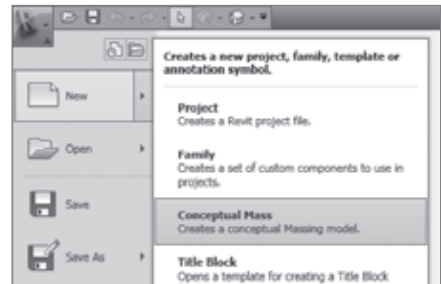

Figure 14.3
We'll look into how to use both methods. If you're in a project file, you can access the massing features in the Conceptual Mass panel on the Massing & Site tab (Figure 14.2). You'll use this tab to create in-place masses, control visibility of masses, place mass instances, and model Revit elements (walls, roofs, curtain systems, and floors) using the surfaces of masses. If you want to create a massing family, click the Application menu (R) and select New → Conceptual Mass (Figure 14.3).